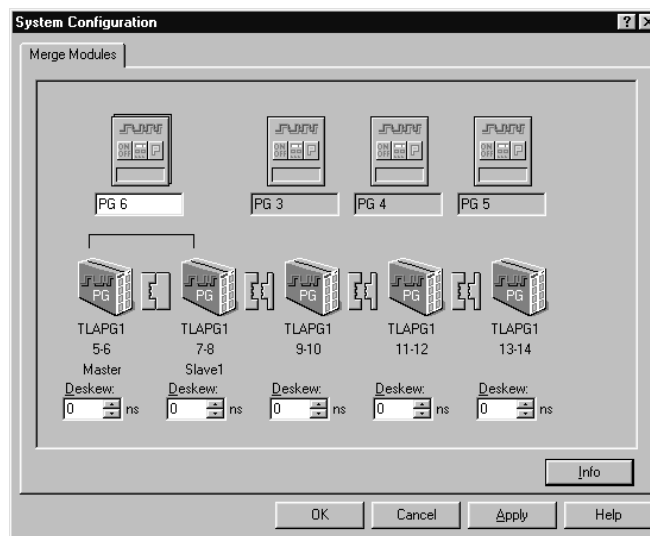

Figure 9–8: Merged and unmerged modules in the Merge Modules window
- b. Click the Merge button between the reference module and the module under test to merge the two modules. (Figure 9–8 shows an example where PG6 consists of two merged modules, while PG3, PG4, and PG5 are unmerged modules as; note the merge buttons.)